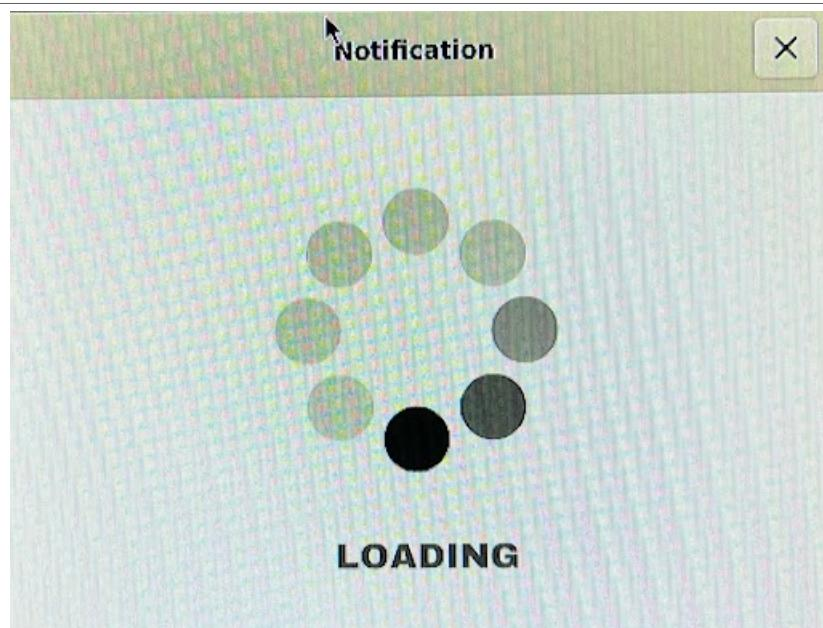

Figure 46. Loading gif
- When the demo is launched, there is a short loading period as shown in Figure 46